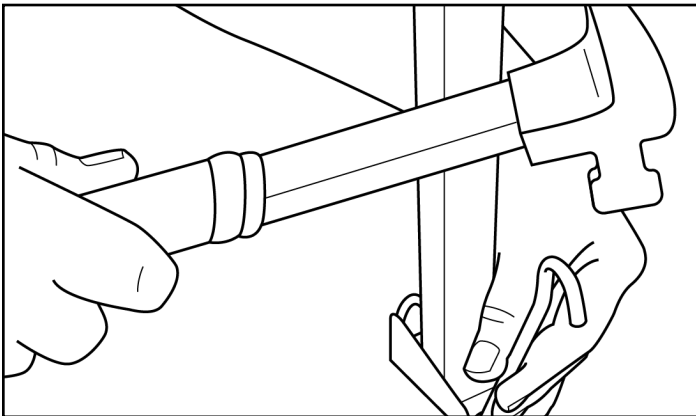

Fig.46
1. At the bottom of the Ground Support assembly, hammer the two stakes through the holes into the ground (Fig.46) for added stability.